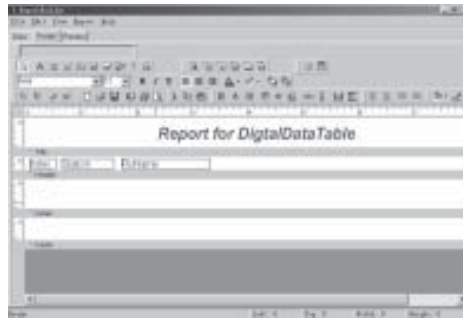

Fig. 8-14 Design the Head of the Report
3.2 Design the Head of the Report. For example, as in Fig. 8-14, set the labels such as ;°Index;±, ;°Station;±, ;°FtuName;±and so on.